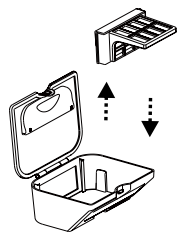

Fig.3
1. Open the upper cover of the dust bin, pour out the dirt (Figs. 3,4, and 5).